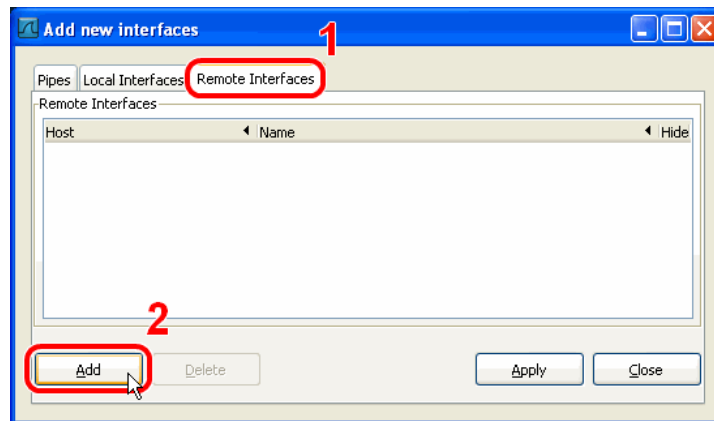

Figure 32: Wireshark Add New Interfaces Dialog.
3. Select the **Remote Interfaces** tab and click **Add** as shown in Figure 32.